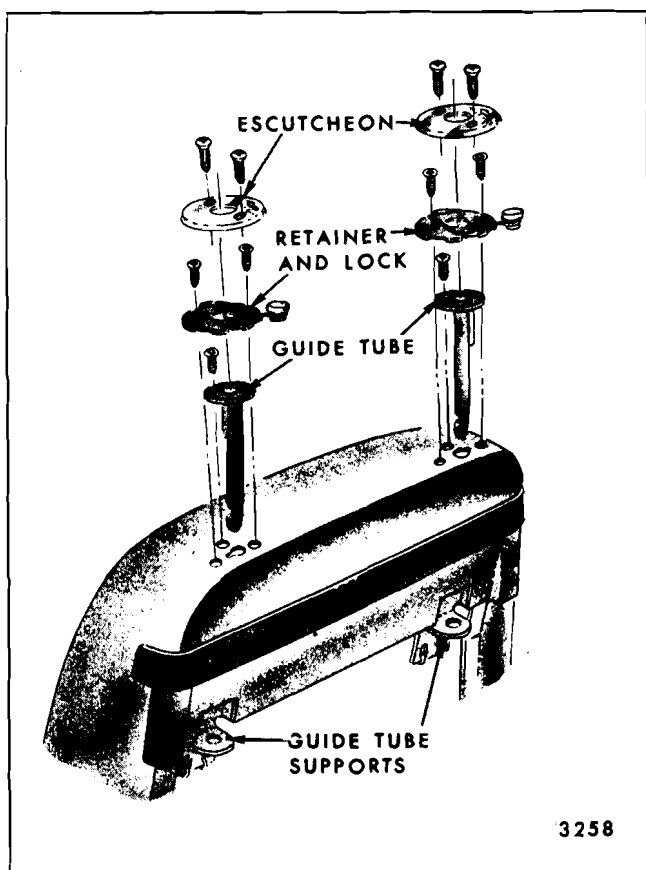

Fig. 15-52—Head Restraint - Strato Seats
1. Remove head restraint from seat back. Remove escutcheon attaching screws and remove escutcheon (Fig. 15-52)
- Remove two screws securing retainer to seat back (Fig. 15-52).
- Remove screw securing upper flange of guide tube to seat back frame (Fig. 15-52); then, pull tube out of supports.